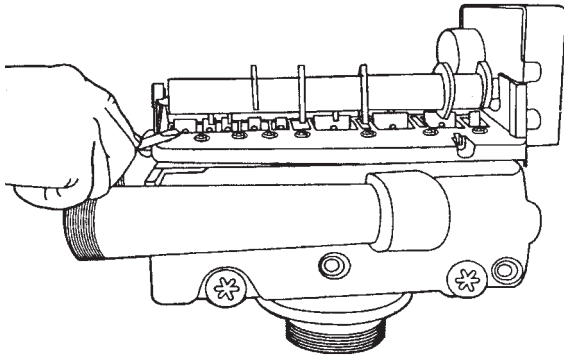

Figure 12
3. Remove cover and with screwdriver, relieve tank pressure by pushing open valve No. 7 (rear flapper) on control as shown (Figure 12).